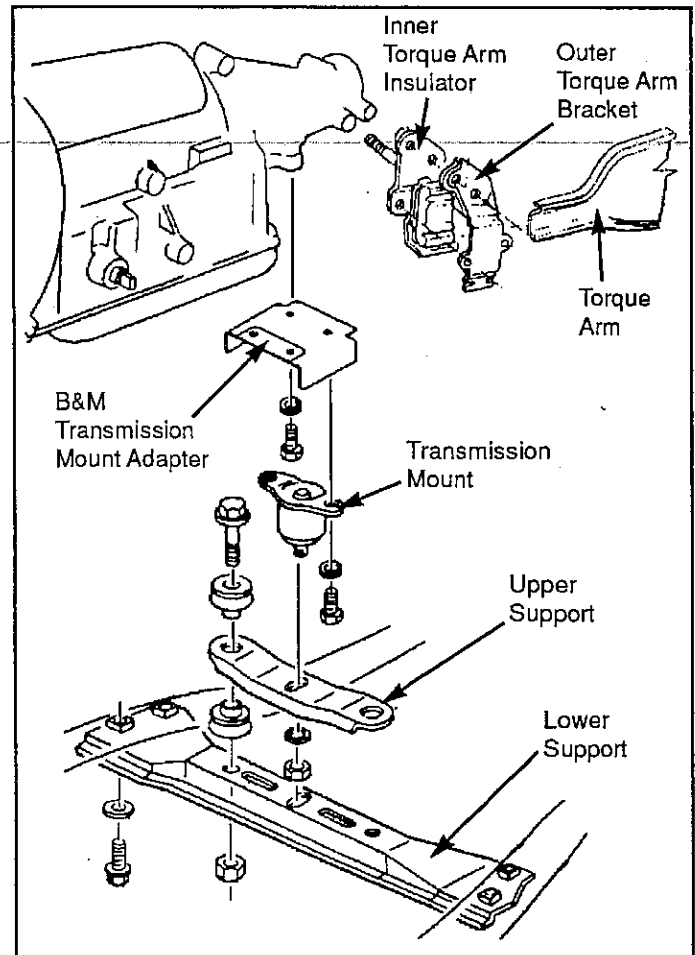

Figure 7
**B. TH-700 installations.** Bolt the supplied mount adapter to the transmission mount holes on the TH-350 transmission as shown in Fig. 7. The two welded in studs should point down and be towards the rear of the vehicle. Install transmission mount to the two studs with flat washers, lock washers and nuts, Install the upper transmission support, raise transmission high enough to install lower transmission support to frame. Sandwich torque arm between inner and outer torque arm brackets making sure the isolator mounts match the shape of torque arm, then bolt inner and outer brackets together. Install lower transmission support to frame then remove transmission jack and finish support installation.